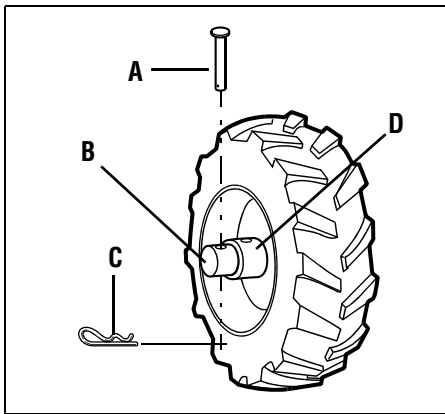

Figure 3-3: FREEWHEEL position.
5. **FOR FREEWHEEL MODE** (Figure 3-3): Slide the wheel inward and insert the Clevis Pin (A, Figure 3-3) secured by the cotter pin (C) only through the hole in the wheel shaft (B). Repeat for the other wheel and then remove the support from beneath the transmission.